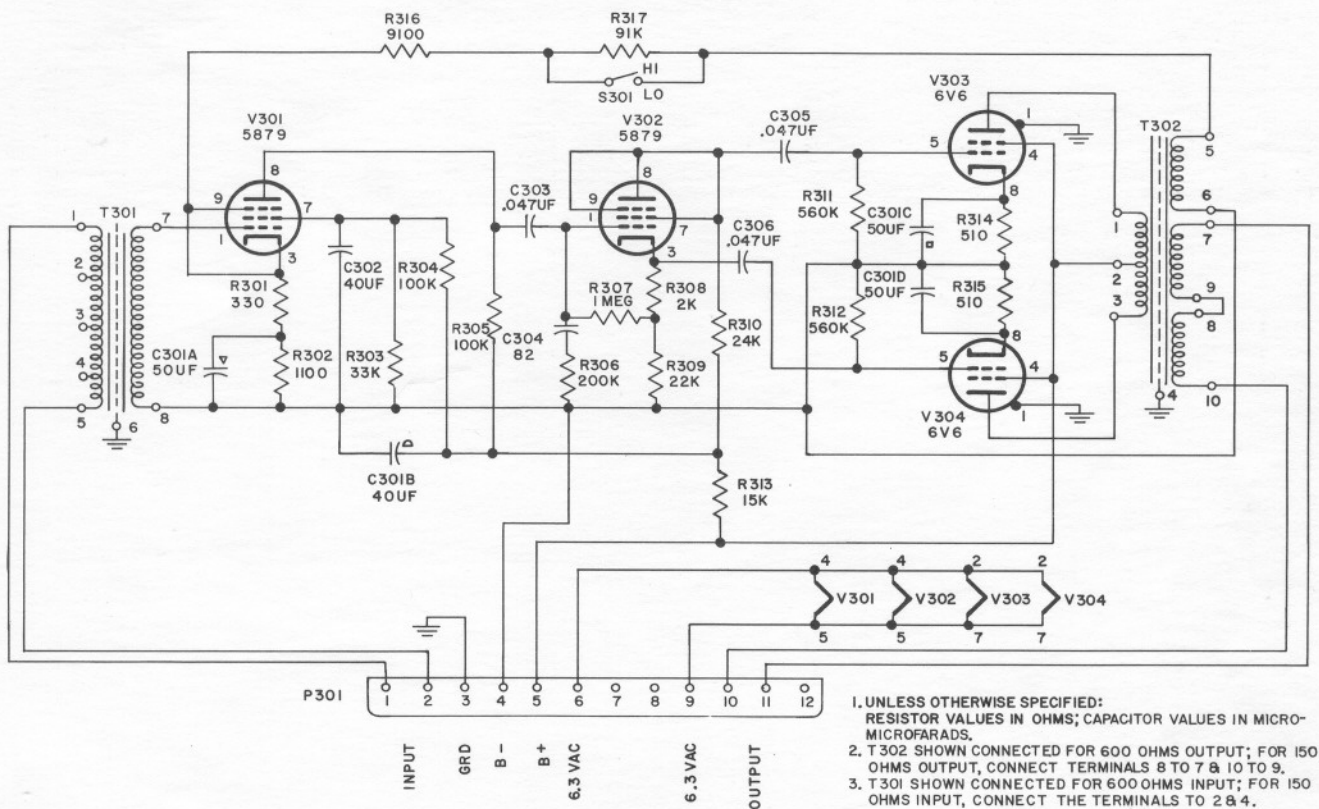

Figure 4. 356B-1 Program/Monitor Amplifier, Schematic Diagram
**1.4.4 INPUT IMPEDANCE.** The 356B-1 is factory wired for 600 ohms unloaded transformer input impedance. It may be rewired for 150 ohms input impedance if desired. See figure 4.
**1.4.6 OUTPUT IMPEDANCE.** The 356B-1 is factory wired for 600 ohms output impedance. It may be rewired for 150 ohms output impedance. See figure 4.
Figure 4 is a schematic diagram of the 356B-1 Program/Monitor Amplifier. Input signal is coupled by transformer T301 to the grid of the input amplifier V301. The input amplifier is a pentode-connected type 5879. Its output is resistance-capacitance coupled to the phase inverter V302. The phase inverter is a triode-connected type 5879. Output from the phase inverter is RC coupled to the grids of two